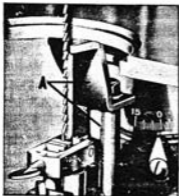

Fig. 21
Available as an accessory for your saw is the Catalog No. 40-204 Lower Saber Saw Blade Guide (A) Fig. 21, which supports the saber blade directly below the table. This accessory enables you to do perfect straight line saber cutting because the blade is supported below the table as well as above. The 40-204 consists of two lower guides with post, nut and thumb screw. Blade slots are .030" and .040".